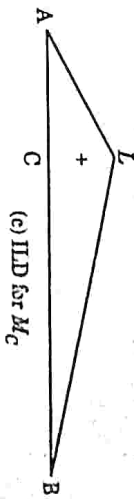

Fig. 3.
- From Fig. 3(c) it is called that maximum moment at C will be, when the UDL covers entire span,